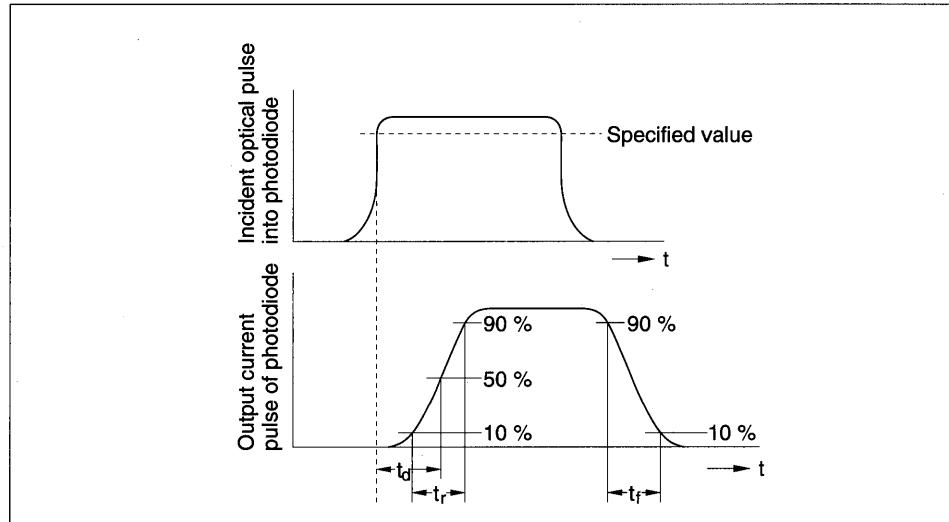
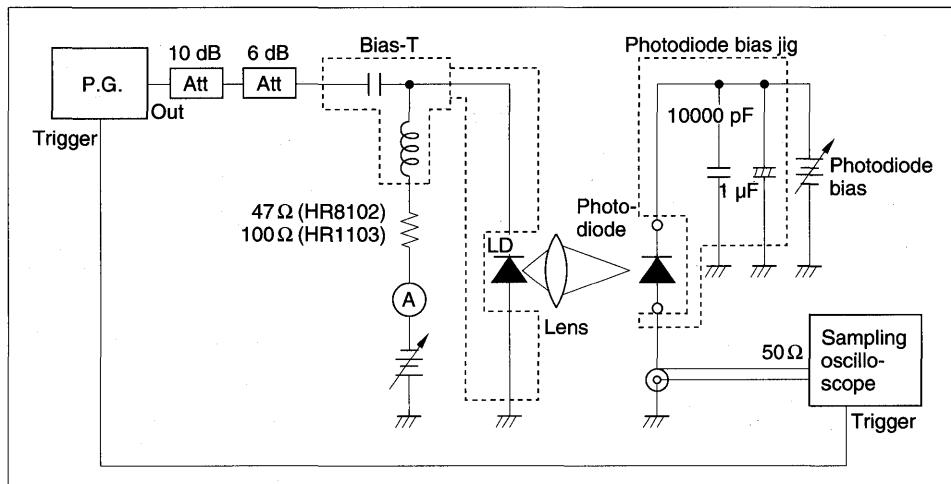
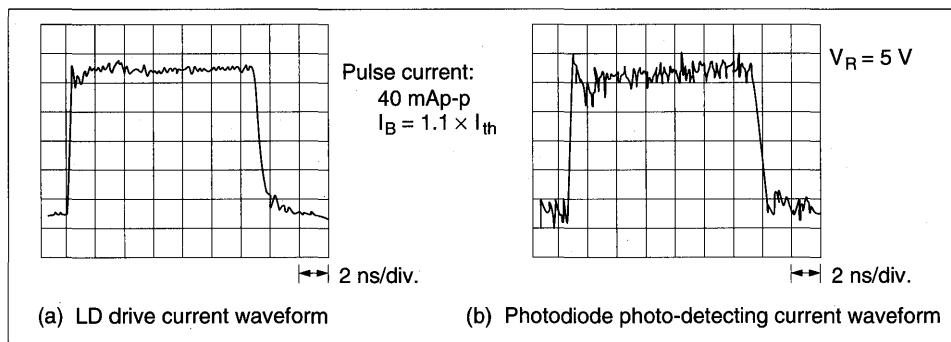

Figure 4-57: Definition of Photo-detection Response Time
Figure 4-58: Measuring Setup for Photo-detection Response
Figure 4-59: Photo-detecting Response Wave for InGaAs/InP PIN Photodiode (HR1103)
Photo-detection response can be observed by measuring rise time, t_r , and fall time, t_f , for a photodiode output-current pulse when a pulse is input into the photodiode (figure 4-57). A measurement setup example is presented in figure 4-58. A high-speed response capability is required for precise measurement of photodiode response when a monochromatic light source (LD) is employed. Optical power output from an LD focused using a lens, and the axis of the LD and the photodiode is adjusted so that the focused spot is within the photo-detection area of the photodiode. LD optical output power is then set by adjusting the pulse generator so that a specified volume of light is incident on the photodiode. A photo-detection response example is shown in figure 4-59.